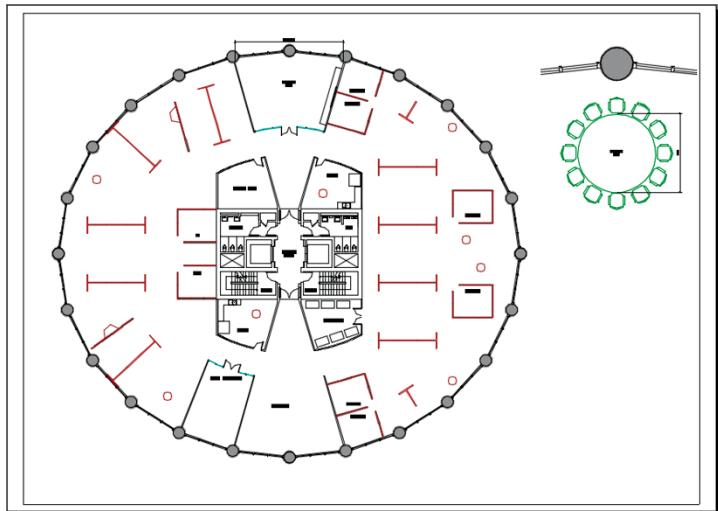

FIGURE 13.24 Plot preview of Layout2
- Select the Output tab on the ribbon, and click the Preview tool in the Plot panel. What you now see is what you would get if you published this drawing (see Figure 13.24). Press Esc to exit the preview.